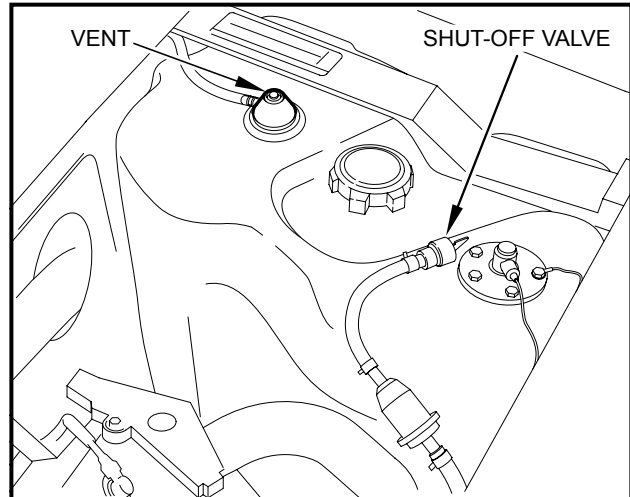

Figure 23 Fuel Tank
1. Restore the fuel systems to operation (**Figure 23**).